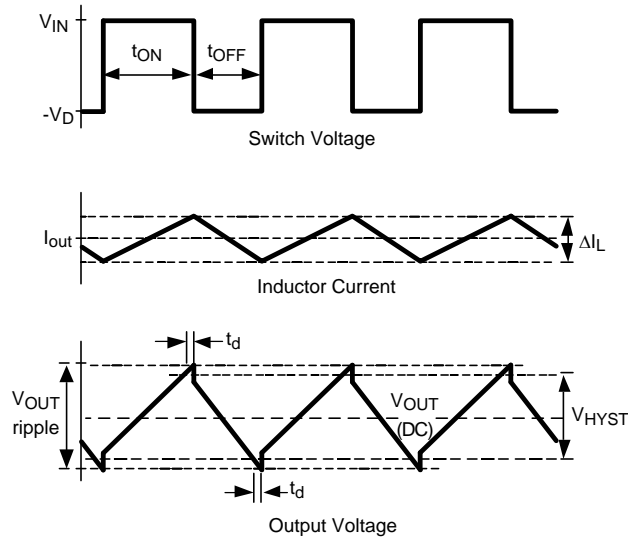

Figure 9. Hysteretic Waveforms
With the PFET on, the input supply charges  $C_{OUT}$  and supplies current to the load through the PFET and the inductor. Current through the inductor ramps up linearly, and the output voltage increases. As the FB voltage reaches the upper threshold (reference voltage plus hysteresis) the output of the comparator goes high, and the PGATE turns the PFET off. When the PFET turns off, the catch diode turns on, and the current through the inductor ramps down. As the output voltage falls below the reference voltage, the cycle repeats. The resulting output, inductor current, and switch node waveforms are shown in Figure 9.
- $t_{off_{min}}$  is the sum of the blanking time, the propagation delay time, and the PFET delay time (see Figure 9) (2)
Capacitors with high ESL (equivalent series inductance) values should not be used. As shown in Figure 9, the output ripple voltage contains a small step at both the high and low peaks. This step is caused by and is directly proportional to the output capacitor's ESL. A large ESL, such as in an electrolytic capacitor, can create a step large enough to cause abnormal switching behavior.